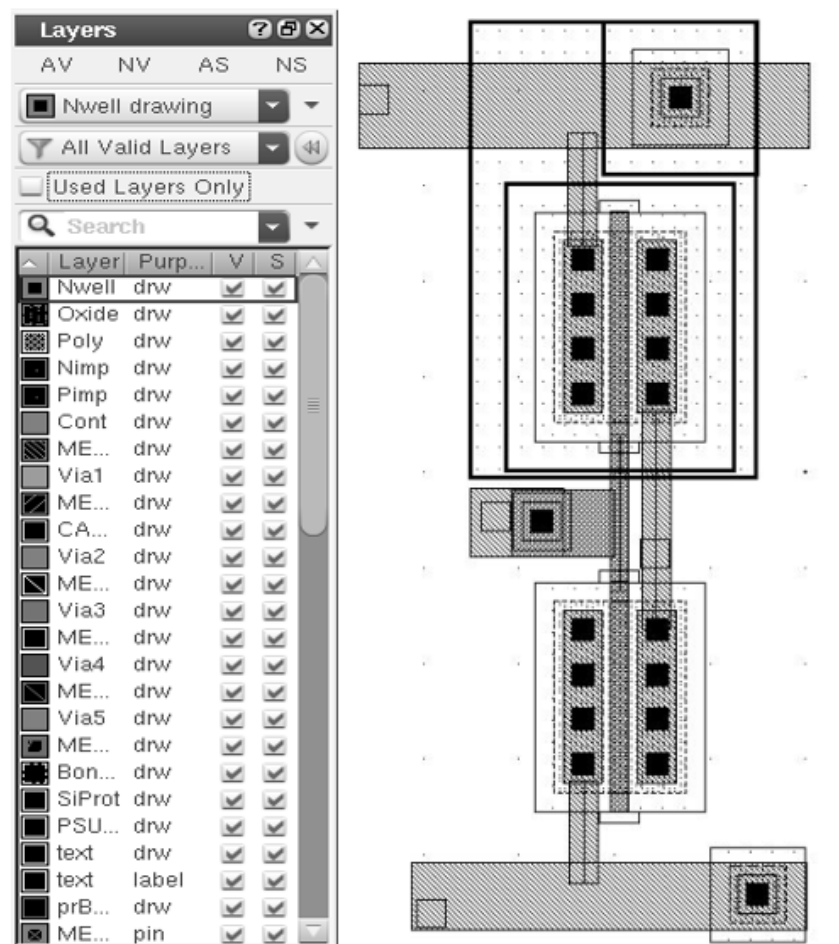

Figure 6.5: LSW & Inverter Layout
3. After clicking OK in Fig.6.4b, Virtuoso Layout XL editor should open as well as the Layer Selection Window (LSW) ( Fig.6.5).
10. After completing the above steps, you should obtain a layout of the inverter which resembles the layout shown in Fig.6.5